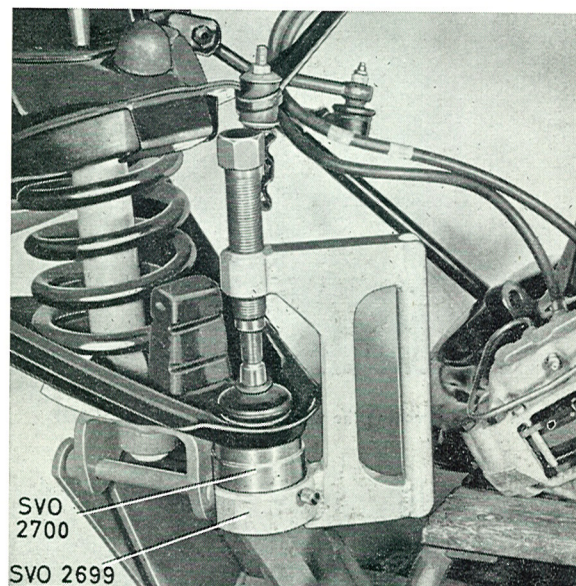

Fig. 6-23. Removing the ball joint, lower wishbone
5. Press the ball joint out of the lower wishbone with press tool SVO 2699 and sleeve SVO 2700, see Fig. 6-23.